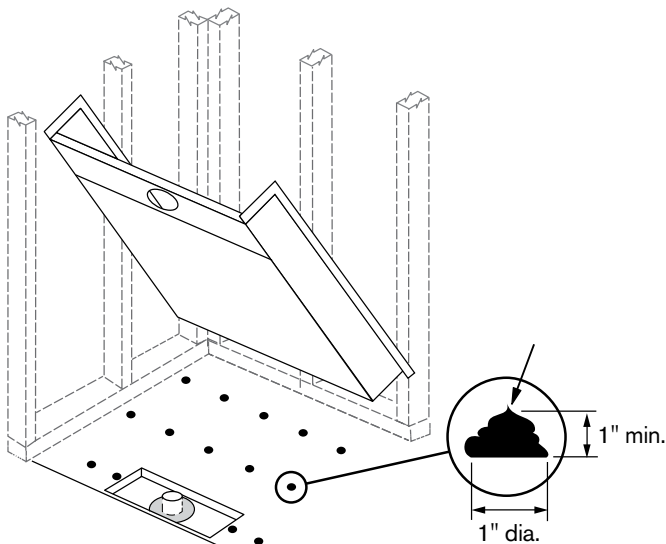

Figure 10
- 13 Place pan in pocket and prop it up while you apply the epoxy. Place thick (1" high, minimum) dollops following the pattern you marked on the floor. The epoxy will fill the void to both secure the pan and help support it. (Figure 10)